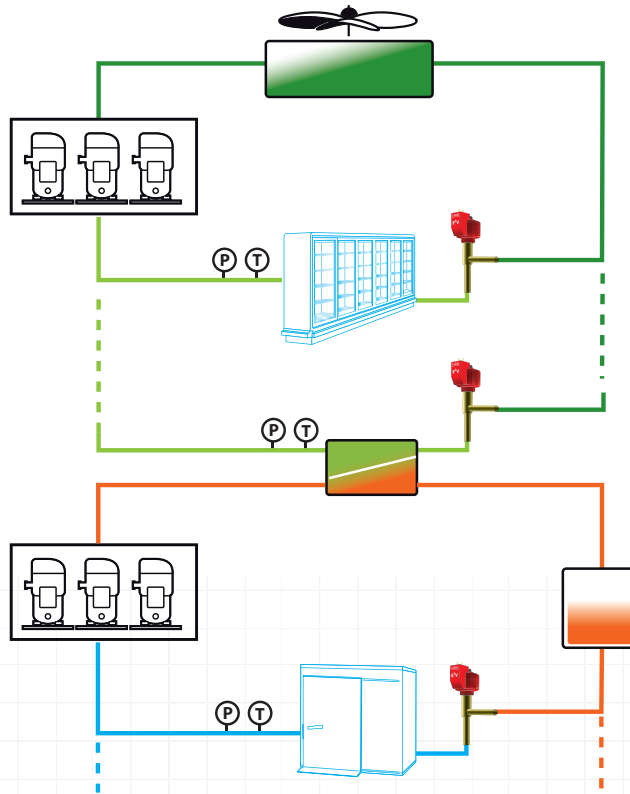

Fig. 4
- classic cascade system with CO2 as secondary fluid. The medium temperature R404A compressor rack serves the medium temperature refrigeration units and also condenses the CO2 from the low temperature compressor rack. Electronic expansion valves are used for the expansion of the fluid in these units (Fig.4);